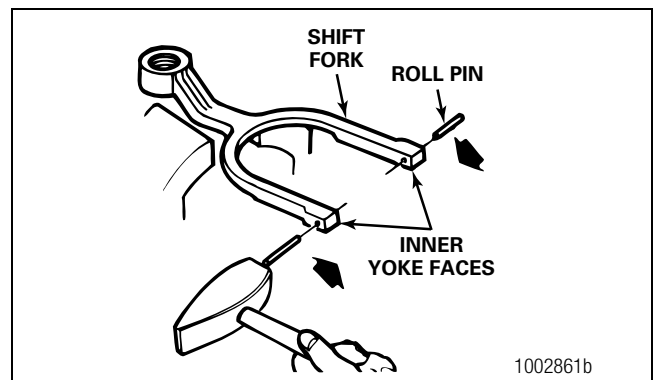

Figure 6.8
1. On carrier models with shift fork roll pins, install the two roll pins into the ends of the shift fork. Tap the pins into position until they are level with the inner yoke face. Figure 6.8. Do not install the pins completely at this time.